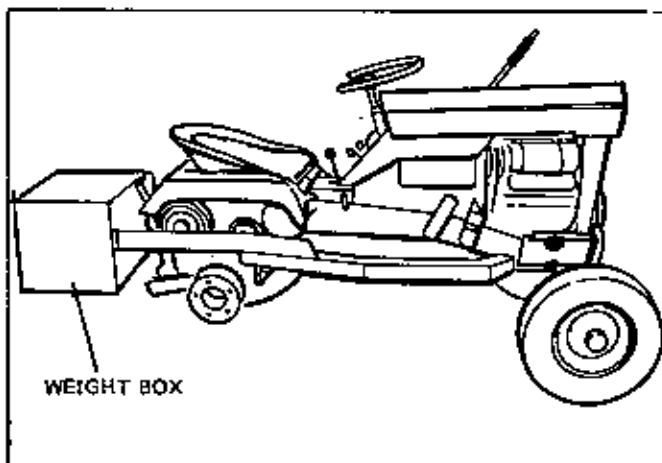

Figure 6.
7. Install weight box using the 1/2 x 1-1/4" capscrews, lockwashers and nuts. See Figure 6.